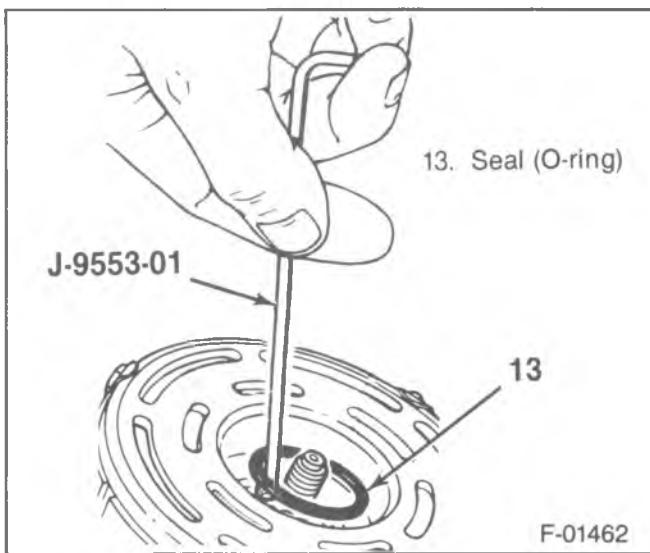

Figure 18—Removing and Installing the Shaft Seal
- 4. Seal (o-ring) (13) with J-9553-01 (figure 18).